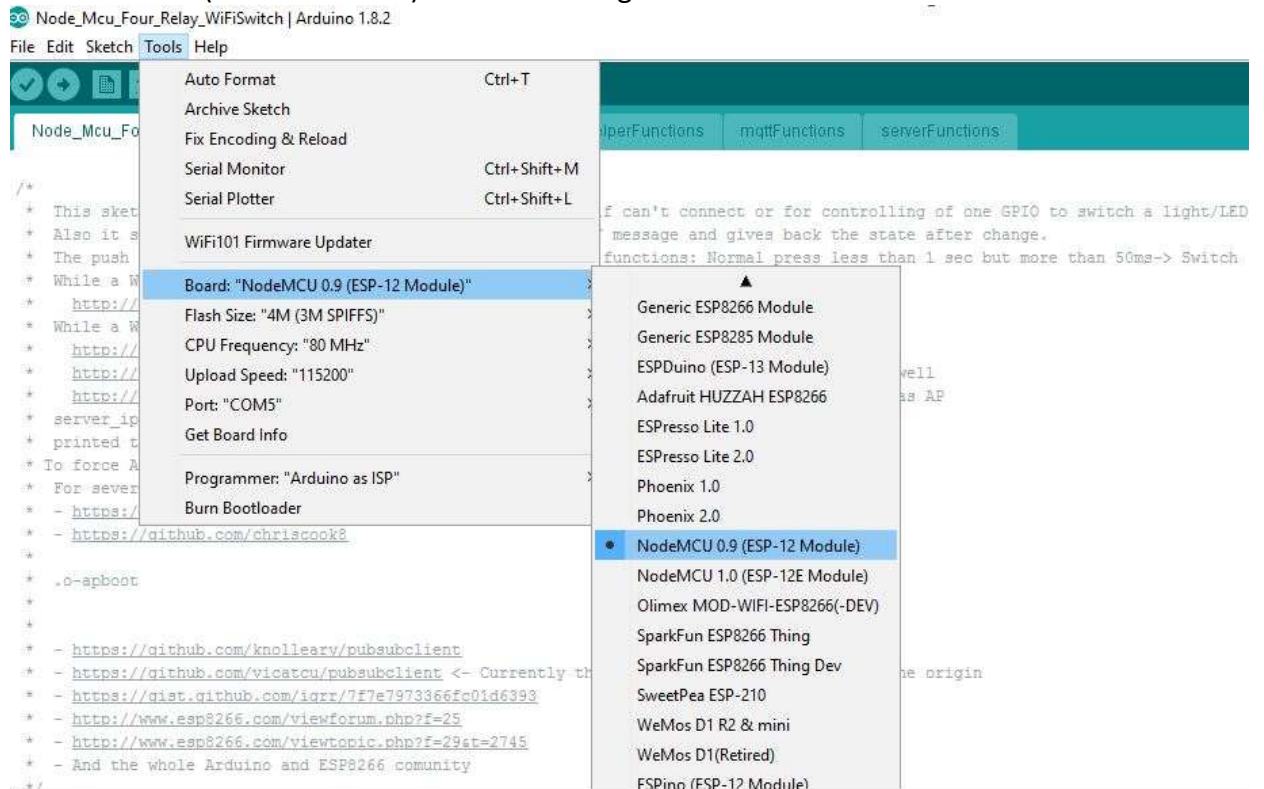

Figure 21: Board Selection
9. Click on Tools Tab, move mouse pointer on "Board: xxxxxxxxxx" and click on "NodeMCU0.9 (ESP-12 Module)" as shown in figure 21.